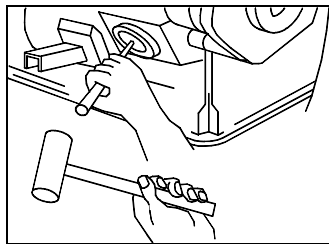

Figure 1 – Remove Core Plug
3. Remove specified core plug. Punch hole in center of frost plug and remove with pliers or vise-grips. (Fig 1.)